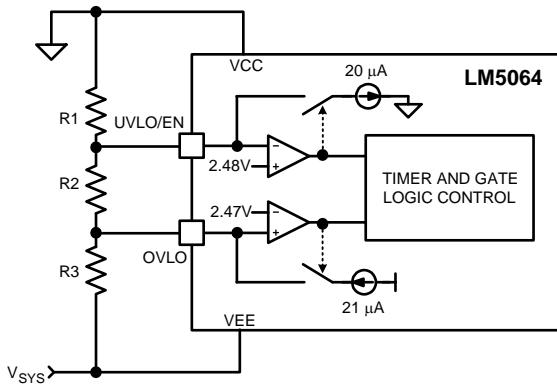

Figure 10. UVLO and OVLO Thresholds Set By R1-R3
**Option A:** The configuration shown in Figure 10 requires three resistors (R1-R3) to set the thresholds.